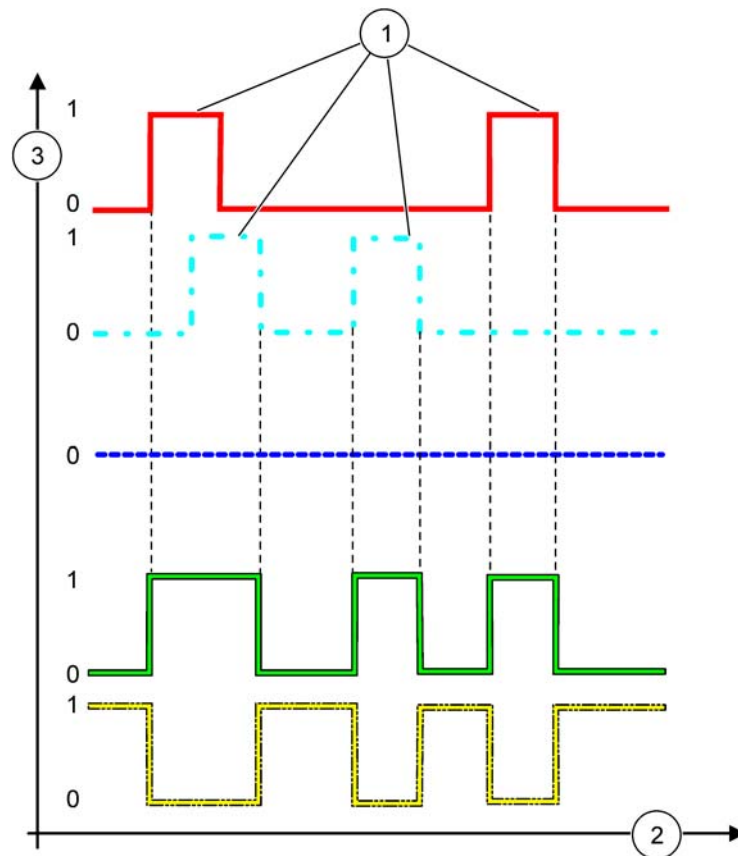

Figure 61 Relay behavior—Warning mode (provided Error List and Warning List are enabled)
Figure 61 shows the behavior of the relay in the Warning mode under different conditions.
**Table 34 Color/line code for Figure 61**